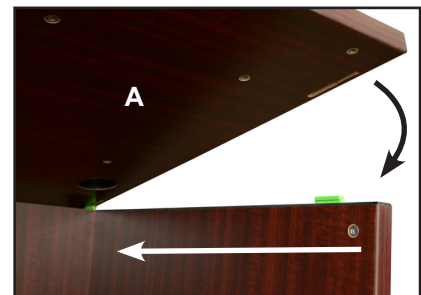

Figure 2
**STEP 2:** Attach the remaining **Desk Side (C)** to the **Desk Front (B)** by lining up the Eclip with its corresponding holes, and sliding into place.
**STEP 3A:** Remove Thumb Screw from **Desk Top (A)** before assembly. Next, attach **Desk Top (A)** to the assembled base by lining up the Eclip with its corresponding holes, and sliding into place (see figure 2.)